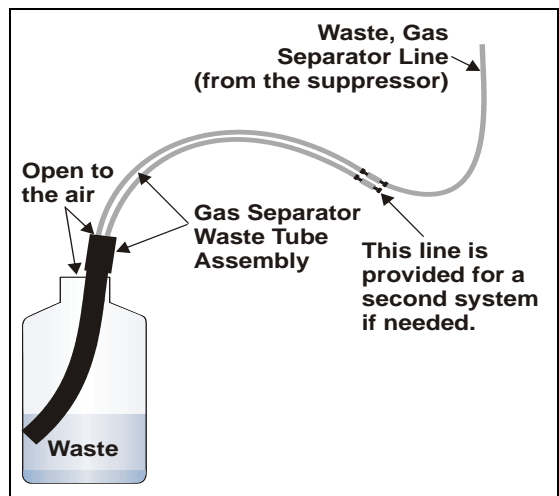

Figure 24. Gas Separator Waste Tube Installation
2. Connect the **WASTE, GAS SEPARATOR** line from the suppressor to one of the 3-mm (1/8-in) ID white Teflon lines on the gas separator waste tube assembly (see Figure 24).
DO NOT CAP THE WASTE CONTAINER: The ICS-2000, Atlas Electrolytic Suppressor, and Self-Regenerating Suppressor (SRS) use an electrolytic process that results in the production of small amounts of oxygen or hydrogen gas. To ensure that the gas is not trapped in a closed container and allowed to concentrate, install a 1.3-cm (0.52-in) ID black gas separator waste tube (P/N 045460) in an uncapped waste container. Connect the Waste, Gas Separator line to the waste tube (see Figure 24).